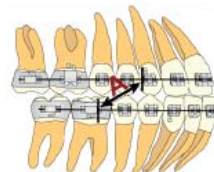

Figure 4.
- b. Measure from the distal edge of the upper cuspid bracket to the mesial end of the lower 1st molar tube (Figure 4).
- c. See the chart below for measurement ranges (A) and part numbers.